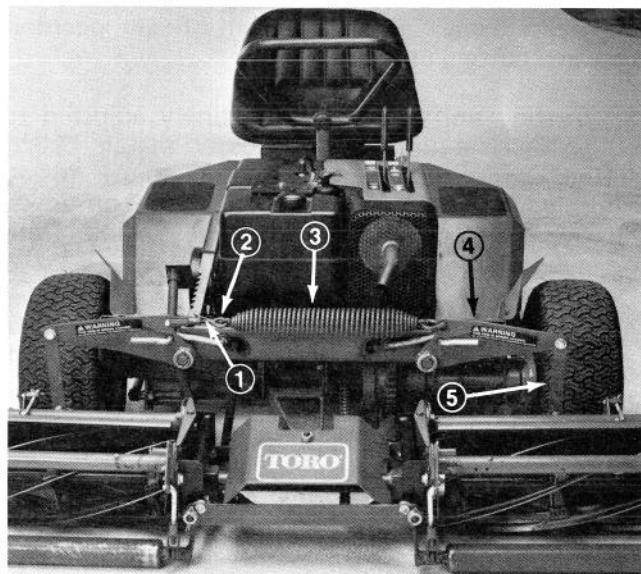

Figure 31
FRONT COUNTERBALANCE SPRING is under extreme tension when arms are extended. GRASP SUPPORT ARMS when releasing links from cutting units (Fig. 31).
1. Decrease spring tension; loosen jam nut securing hook eye (Fig. 31).
2. Turn hook eye clockwise (Fig. 31).
1. Increase spring tension; loosen jam nut securing hook eye (Fig. 31).
2. Turn hook eye counterclockwise (Fig. 31).
- A. Remove cotter pins securing links to cutting units (Fig. 31).
- B. Grasp each support arm firmly and remove links from cutting units (Fig. 31).
- C. Measure length of spring in relaxed position, note length and install and secure links back onto cutting units (Fig. 31).